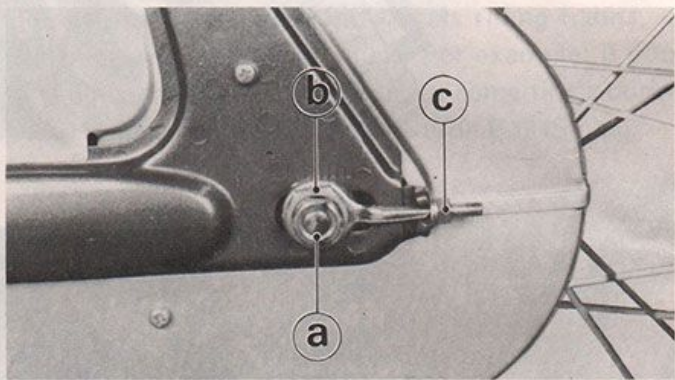

Fig. 25
- Loosen the rear brake rod adjusting nut (c). (See Fig. 25)